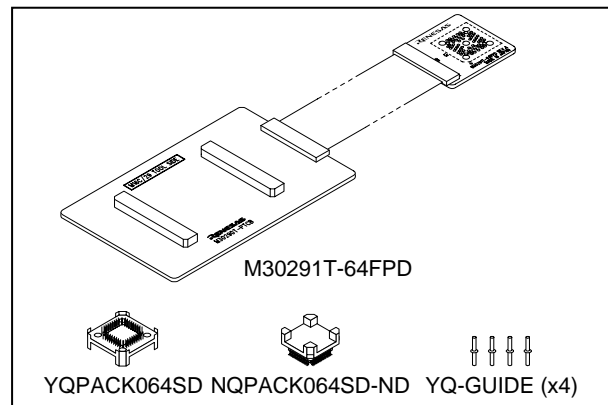

Figure 1 Package components of the M30291T-64FPD
2. Package Components (See Figure 1)